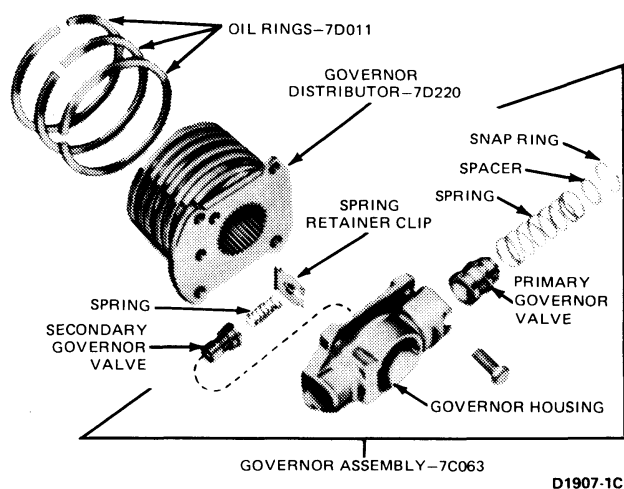

FIG. 53 Governor Disassembled
Refer to Fig. 53.
1. Remove the oil rings from the governor oil distributor (Fig. 53).